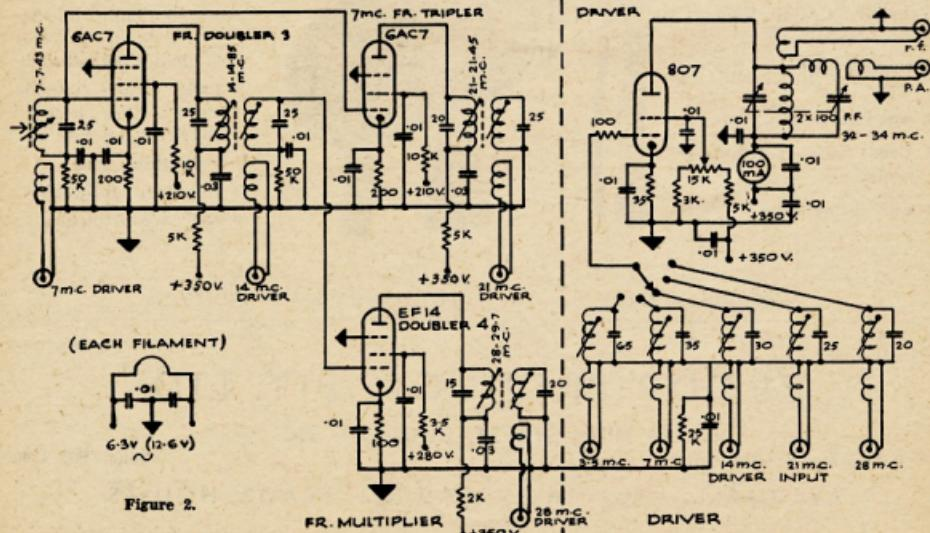

Figure 2.
**Figure 2:** There is a string of five frequency multiplier stages of identical design on a sub-chassis. Two of these doublers are shown in Fig. 1, whilst two other doublers and one tripler can be seen in Fig. 2.